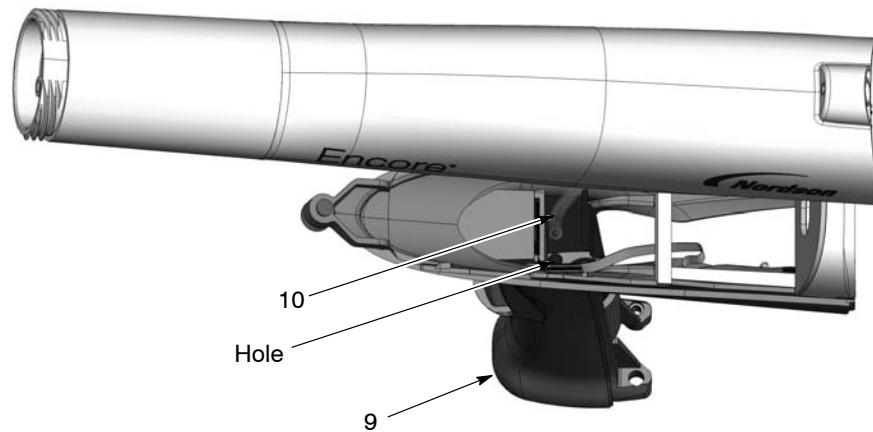

Figure 3 Inserting the Clear Air Tubing into the New Handle
3. See Figure 3. Bring the gun body and handle together, and insert the clear air tubing (10) down into the handle (9), along the back of the trigger housing. There is a small hole in the handle rib for the tubing to pass through.